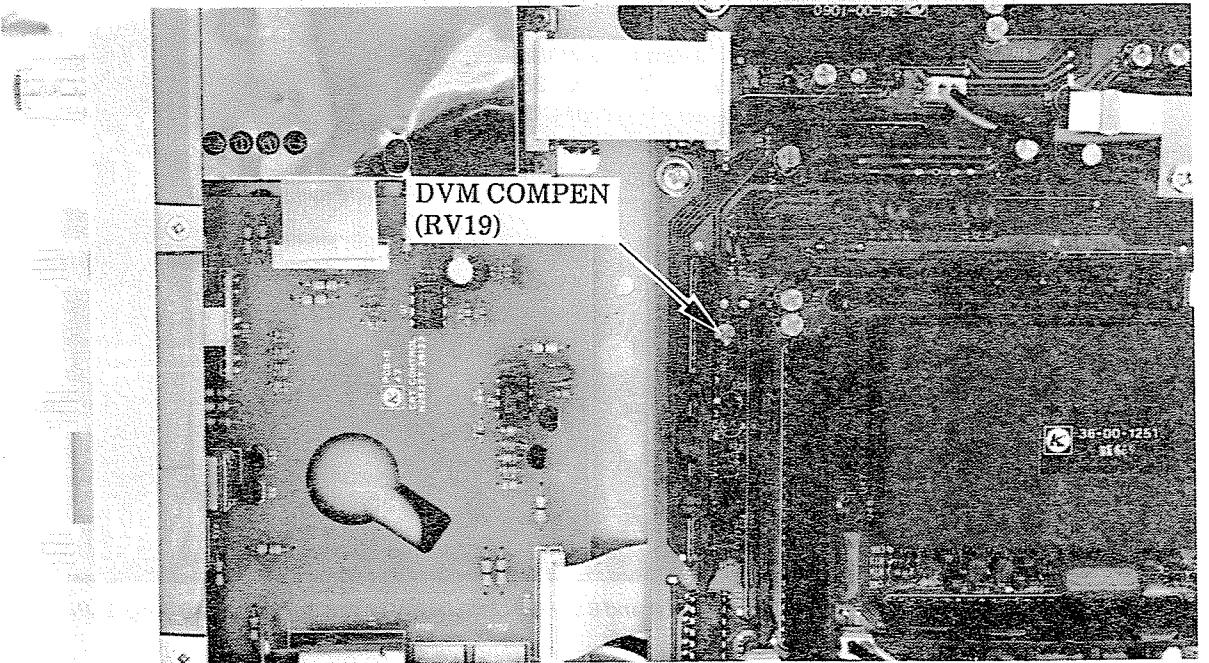

Fig. 4-32 Adjustment position of DVM COMPEN (RV19)
- (4) Confirm that the averrations of the waveform is within  $\pm 3\%$ . If it is not, adjust DVM COMPEN (RV19) on board A4 shown in Fig. 4-32.